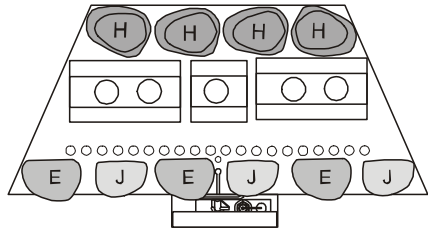

Figure 26
1. Unpack the **aeration tubes**, pebbles **H**, **E & J** and place them on the tray as shown in **Figure 26** ensuring that the port holes and the cross ignition slot remain clear. Note that the aeration tubes should be placed on their back, with the legs facing up ensuring that none of the port holes are blocked.